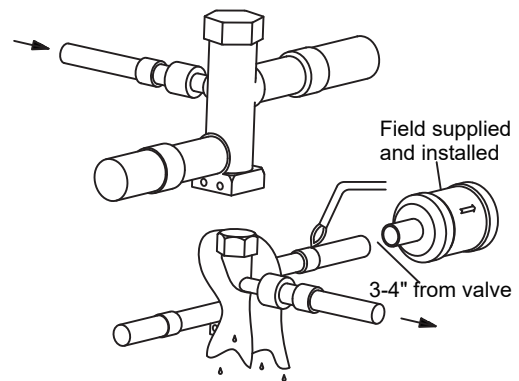

Figure 7-4
4. Wrap a wet rag around the valve body to avoid heat damage and continue the dry nitrogen purge (Fig. 7-4).